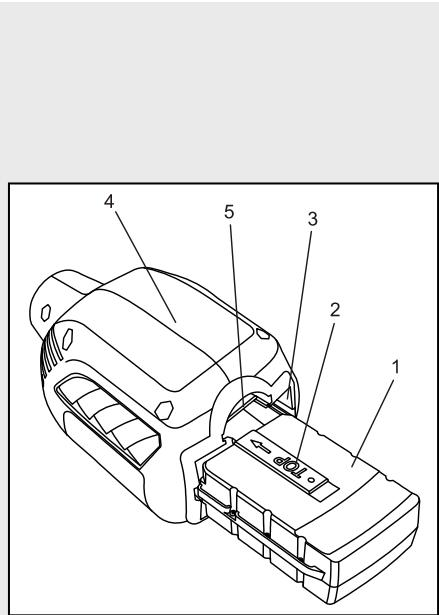

Fig. 11
1. Position the Power Cell (1) with the "TOP" label (2) facing upward (Fig. 11).
2. Slide the Power Cell into the matching cavity (3) in the rear of the upper cowling (4).
**NOTE:** Make sure you push the Power Cell fully into the cavity. The locking latch (5) will click when the Power Cell is properly installed.